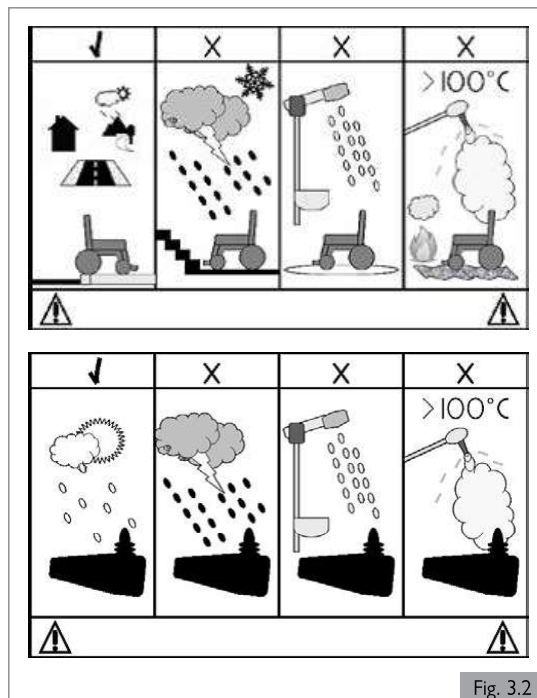

Fig. 3.2
3.2 Area of application: The user environment (Fig. 3.2)